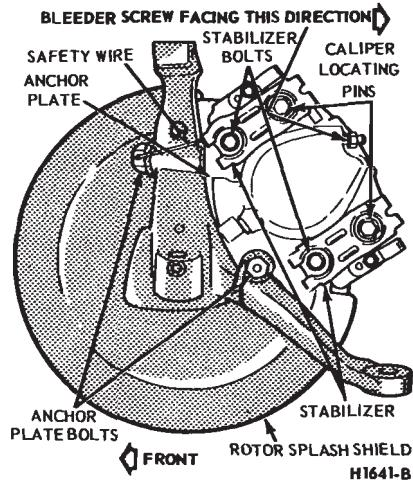

FIG. 6—Floating Caliper
(Fig. 6).
6. Remove the upper stabilizer to anchor plate attaching bolt and remove the upper stabilizer to avoid interference with the brake hose during caliper removal (Fig. 6).
8. Install the caliper locating pins and torque to specifications (Fig. 6).